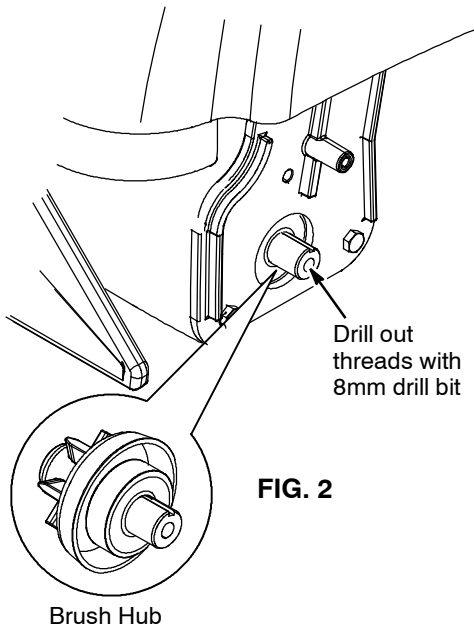

FIG. 2
3. Carefully drill out the threads in the brush hub with an 8mm drill bit (Figure 2). Do not remove brush hub from machine.